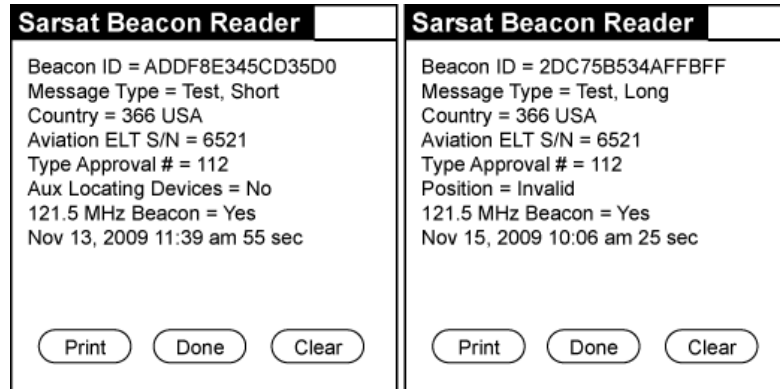

Figure 11 Short and Long 406 MHz Message Examples
- 4) Deactivate the ELT and read the test message broadcast at "turn-off". Message examples are shown in Figure 11 Short and Long 406 MHz Message Examples.
- b) The left hand example in Figure 11 is an ELT programmed for "User Protocol ELT with Serial Number", with a test Hex ID. The right hand example is an ELT programmed for "Standard Location Protocol ELT with Serial Number".
- d) If the ELT is programmed with a location (long message) protocol and disconnected from the ELT/NAV Interface, the message will indicate "Position Invalid" in lieu of position data, as shown in the right hand example in Figure 11.